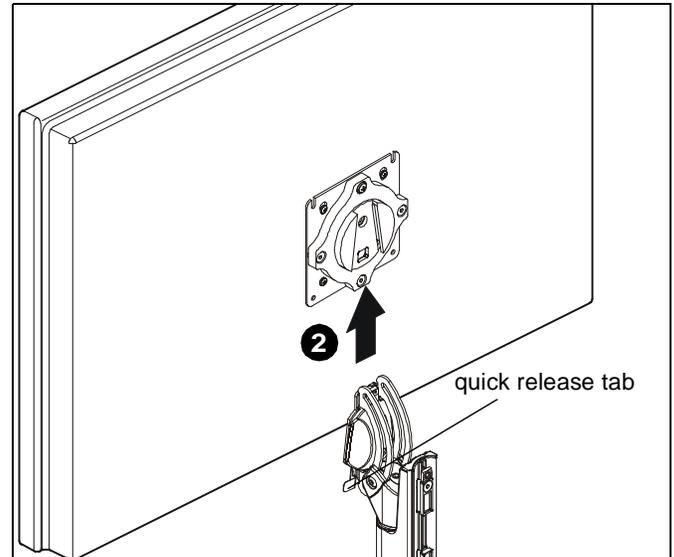

Figure 7
**WARNING:** Only remove display from mount when the display can be lifted up from the mount! DO NOT remove display unless the display is in the upright position! (See Figure 7)
2. Remove quick release faceplate from mount by pulling quick release lever and sliding faceplate off mount. (See Figure 7)